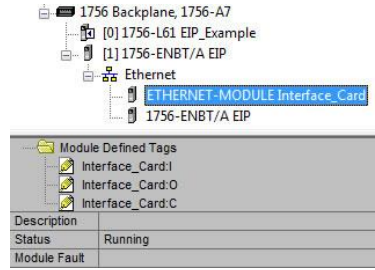

Figure 38: Online Module Status
- 7) Switch to online mode and download the project to the PLC. Verify that the newly-added inverter is available and operating correctly by observing any indications shown on the inverter’s icon. When the inverter’s icon is selected, its status and any available error messages will be displayed in the area below the project tree. Refer to Figure 38. Also confirm that the interface card’s “Network Status” LED should be solid green, indicating an “online/connected” state.